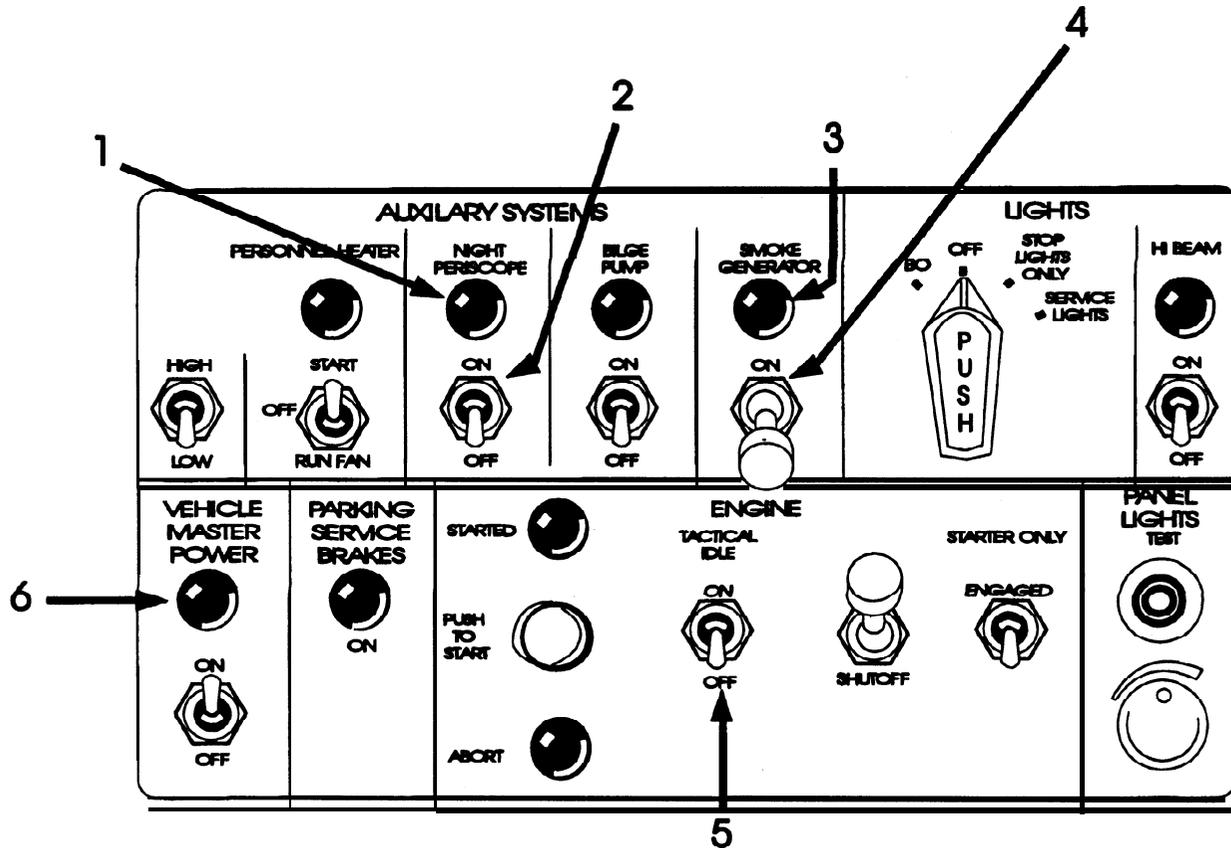

Figure 2-21. Driver's Master Control Panel
2.3.3.4 Driver's Master Control Panel. The simulator reads the following switches on the Driver's Master Control Panel, shown in Figure 2-21, and provides the appropriate visual and audio effects to the IOS and the crew.